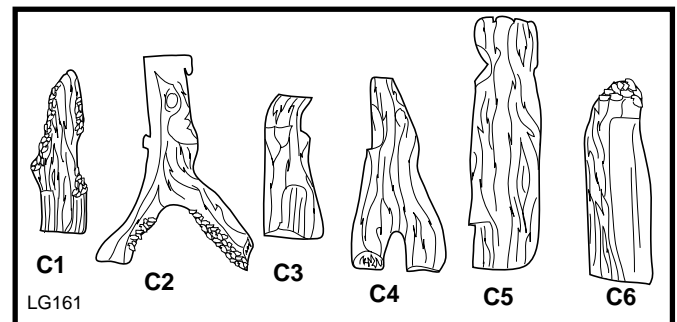

Fig. 9 GPF logs.
1. Arrange logs on floor near burner according to Figure 9. As shown in Figure 9, the bottom of the logs will be toward the outside of the burner ring.